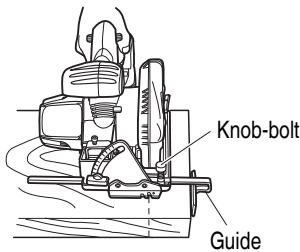

Fig. 8
3. Regulating the guide (Fig. 8)